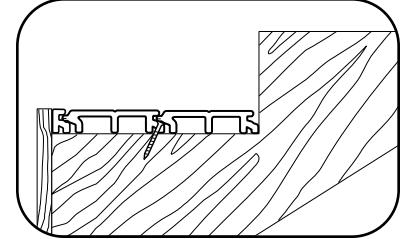

Fig. 19
- Fasten the remaining stair tread plank(s) into place as you did the first stair tread plank (Fig. 19). There will be a gap of up to 1/4" between the stair tread planks. You will be able to see part and/or all of the weephole. **Do not force the stair tread planks together.**